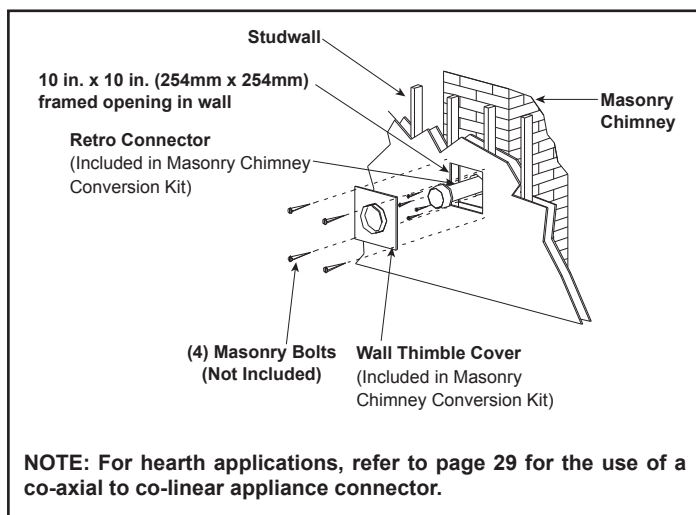
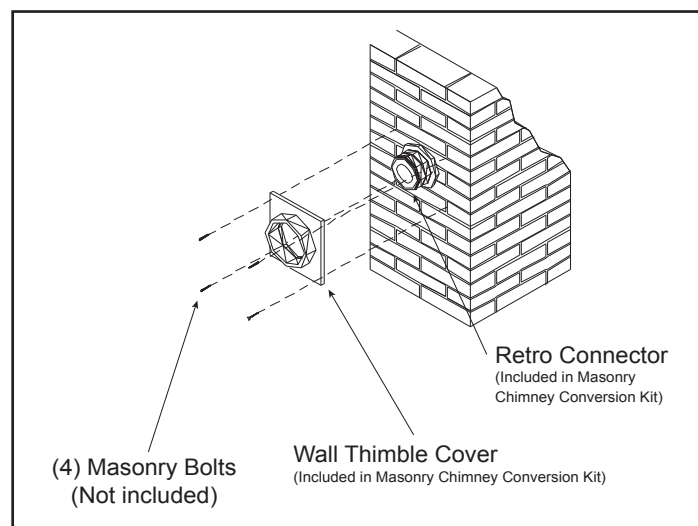

Figure 4.25
Figure 4.30
2. Once the center point of the penetration has been determined, cut a 6 in. (152mm) diameter hole in the masonry. If the hole is too large, the retro connector might not mount properly; if the hole is too small, the appliance might starve for intake air. If there is a frame wall in front of the masonry wall, cut and frame a 10 in. (254mm) square opening in the wall (centered around the 6 in. (152mm) masonry opening). If there is sheet rock only (no studs) in front of the masonry the 10 in. (254mm) opening is still needed, but does not need to be framed. If the hole is framed a wall thimble is required. This allows the retro connector to mount directly on the masonry and provide the correct clearances to combustibles. See Figure 4.25.
10. Slide wall thimble cover over retro connector and secure with masonry bolts. See Figure 4.30. If you have a framed wall in front of the masonry, use wood screws to mount wall thimble cover to framed wall, over retro connector and 10 in. (254mm) square framed opening. See Figure 4.25. If needed, add a section of direct vent pipe to the retro connector in order to extend through the opening in the wall thimble cover.